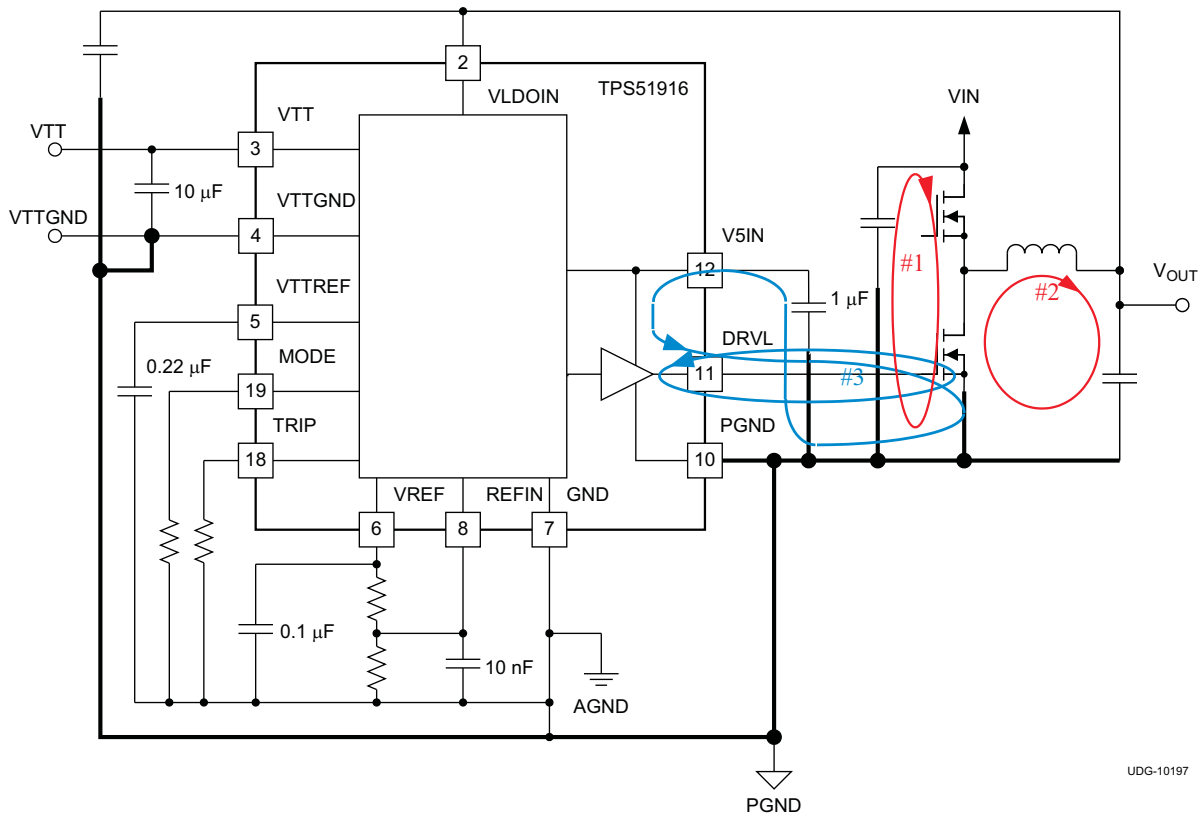

Figure 41. DC/DC Converter Ground System
- The most important loop to minimize the area of is the path from the VIN capacitor(s) through the high and low-side MOSFETs, and back to the negative node of the VIN capacitor(s). Connect the negative node of the VIN capacitor(s) and the source of the low-side MOSFET as close as possible. (Refer to loop #1 of Figure 41)
- The second important loop is the path from the low-side MOSFET through inductor and VOUT capacitor(s), and back to source of the low-side MOSFET. Connect the source of the low-side MOSFET and negative node of VOUT capacitor(s) as close as possible. (Refer to loop #2 of Figure 41)
- The third important loop is of gate driving system for the low-side MOSFET. To turn on the low-side MOSFET, high current flows from V5IN capacitor through gate driver and the low-side MOSFET, and back to negative node of the capacitor. To turn off the low-side MOSFET, high current flows from gate of the low-side MOSFET through the gate driver and PGND pin, and back to source of the low-side MOSFET. Connect negative node of V5IN capacitor, source of the low-side MOSFET and PGND pin as close as possible. (Refer to loop #3 of Figure 41)
output capacitor(s), VTTGND, GND and PGND pins should be connected to system GND plane near the device as shown in Figure 41.